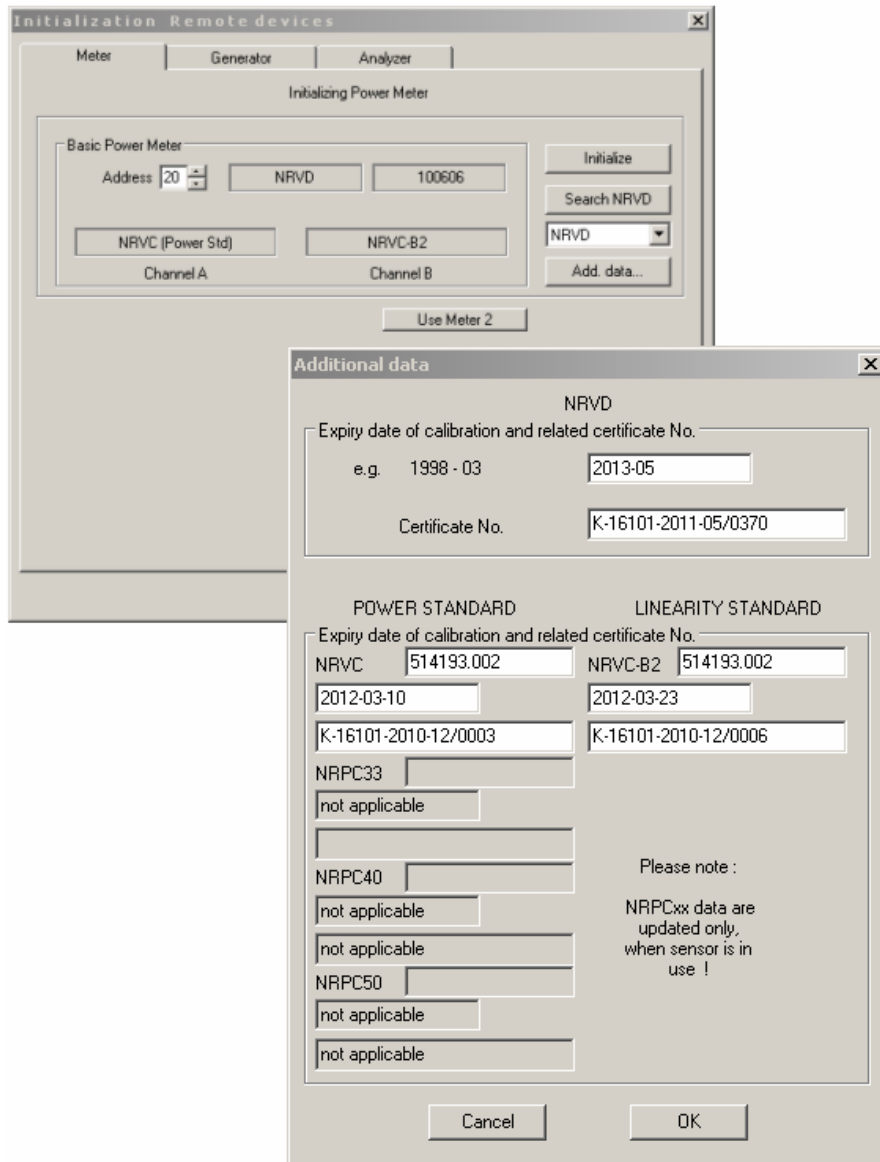

Fig. 3-1 Dialog boxes for initializing the R&S®NRVD and the two standards
- In the case of an initial installation or after a recalibration, the power standard and the linearity standard are to be connected to the two measurement channels of this R&S® NRVD. The R&S® NRVD should then identify the two sensors and make the necessary entries in the **Channel A** and **Channel B** boxes (Fig. 3-1)
- Regardless of the selected combination, the R&S®NRPC reinitializes prior to calibration of a sensor. After pressing the **Add data ...** (Fig. 3-1) button, information is provided for each R&S®NRPC that was used in the last calibration. After changing the power standard, this information is not updated immediately. Instead, it is updated after launching a new measurement (button )